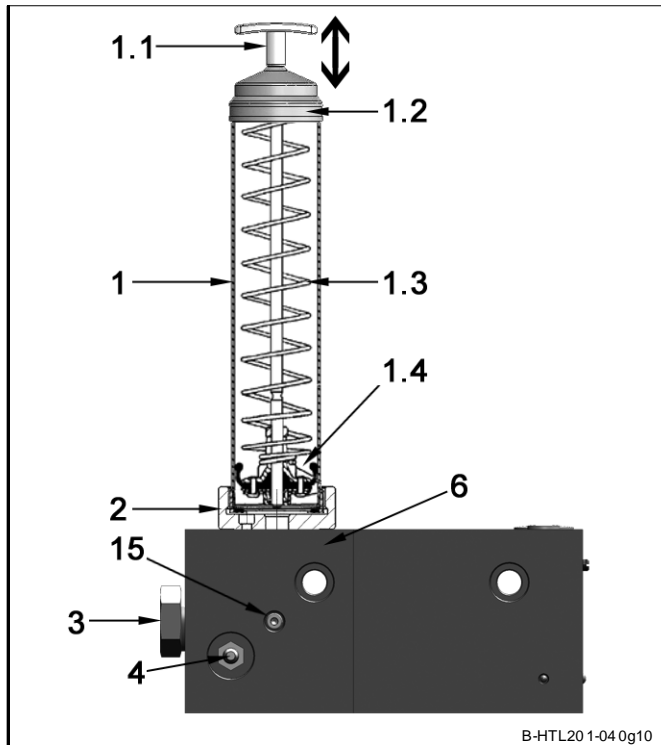

Fig. 4-3 Filling-level control of the press container
- Fill the press container with lubricant (or with a 380 g lubricant cartridge as soon as the hand lever 1.1 has sunk as shown in Fig. 4-3.